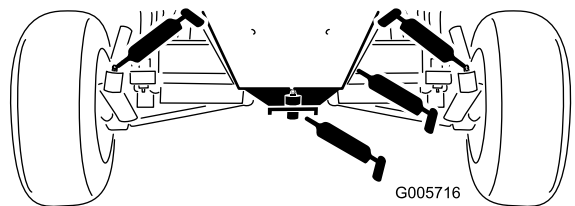

Figure 42
- Rear wheel spindle bushings (Figure 42)
- Steering plate bushings (Figure 42)
- Axle pin bushing (Figure 42)